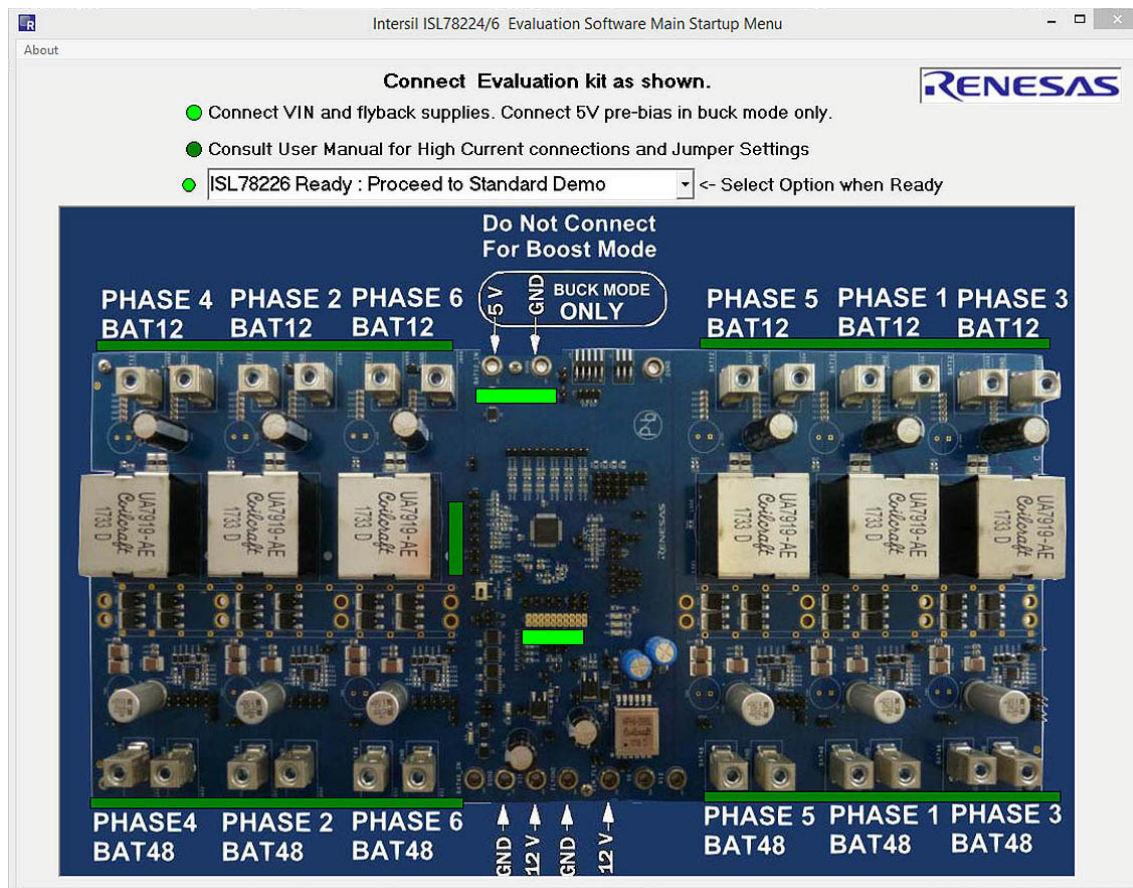

Figure 13. Software Startup Screen (ISL78226 Selected)
- (8) Select either **ISL78226 Ready: Proceed to Standard Demo** or **ISL78224 Ready: Proceed to Standard Demo** from the drop-down menu.
- (a) Figure 13 shows the ISL78226 startup screen.